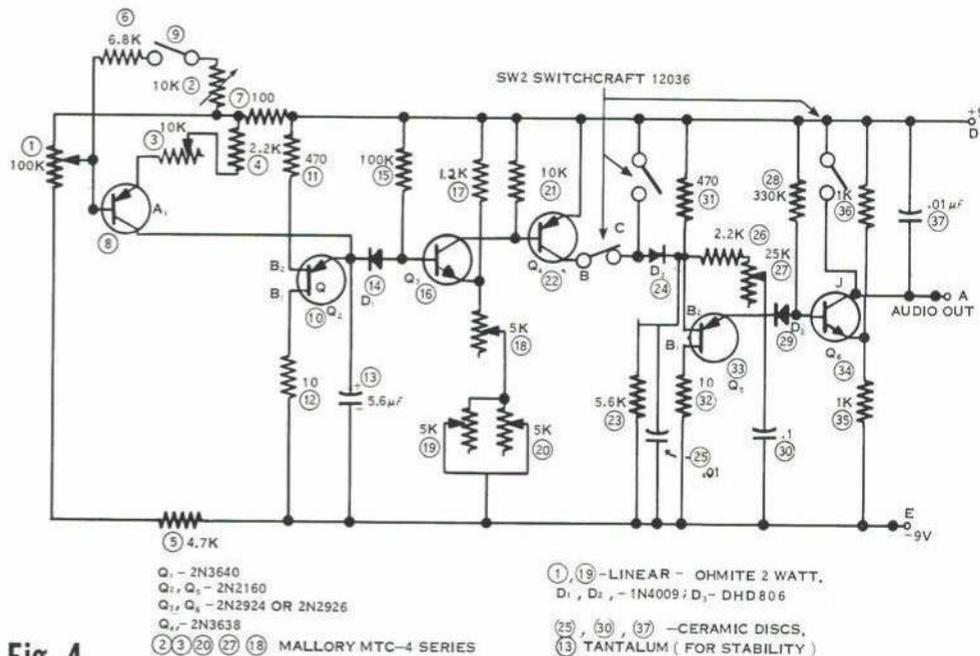
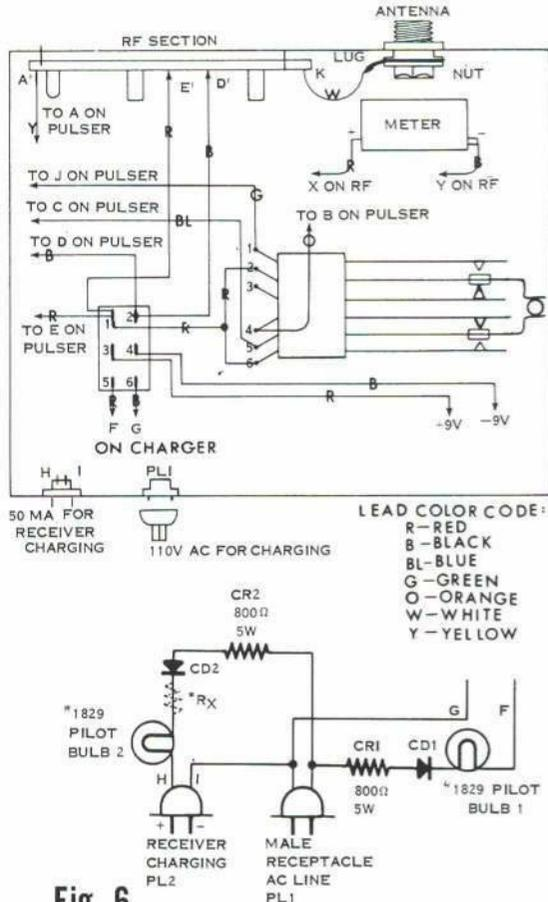

Fig. 4
Fig. 6
a) Assemble pulser/audio components according to Fig. 5, using the numbered sequence and referring to the schematic (Fig. 4) for component values. (Note: if you intend to build in the charger shown in Fig. 6, do not solder pots 1 and 19 with the stick assembly in place until so indicated.) If the charger is not going to be included, solder the lugs of the pots 1 and 19 to the pulser/audio board with the pots mounted in the stick assembly (Bonner Stick assembly shown).